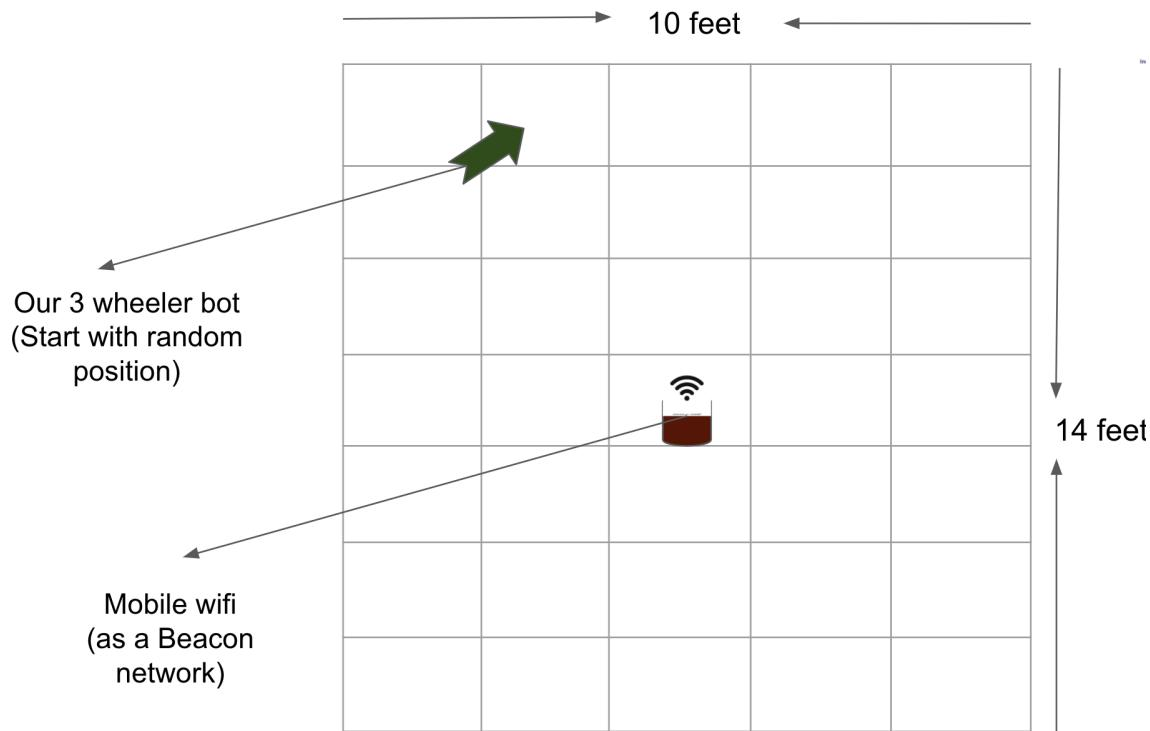

Figure 3.5: Arena for data collection
- **Step 2:** From each direction at each block ( refer fig.3) , 15 continuous RSSI values were received by ESP32 module and sent those real-time values to our local machine( laptop) in a spreadsheet(for storing purpose) using raspberry pi. (Refer Figure 3.5)